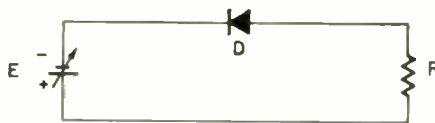

Fig. 3—DIODE IS FORWARD-BIASED by variable voltage source. Resistor  $R$  limits diode current to a safe level.
After drilling, insert the eyelets through a film positive or similar artwork of the front of the panel (Fig. 3) cut to match the drilling pattern. Solder the eyelets from the copper side; be very careful not to get solder in the eyelets as these are just large enough to accept the taper pins used as plugs. The eyelets forced through the artwork will hold the artwork in place.
**FIG. 2 (top)—LOGIC PANEL WIRING** is smaller than half-size. Enlarge so pattern is 11 1/2 x 8 1/2 in. between corner mounting holes. **FIG. 3 (center)—FRONT OF LOGIC PANEL.** Enlarge to same size as Fig. 2. **(Bottom)—LOGIC PANEL PHOTO** shows the IC's, all jumpers and leads.
Returning to Fig. 2-a, you will notice that at low voltages, very little or no current flows. As the voltage is increased, the amount of current that flows increases rapidly. This can be looked upon more instructively with the aid of Fig. 3. Here, the diode is in a circuit with a resistor and variable voltage power supply.
The point  $V$  in Fig. 2-a is quite important. This is basic to the approximate characteristic curve of the diode.  $V$  is determined by assuming that the straight portion of the curve is extended to the zero current axis. The approximate curve is shown in Fig. 2-c. From  $O$  volts to  $V$  volts, no current flows. To a good approximation, it can be assumed that no current flows when the voltage across the diode is less than  $V$ . As soon as the voltage across the diode is increased even slightly above  $V$ , current will flow and the voltage across the diode will remain at about  $V$  volts or rise slightly. The amount of current flowing through the circuit in Fig. 3 will be relatively independent of the diode, but will depend primarily upon  $E$  and  $R$ .